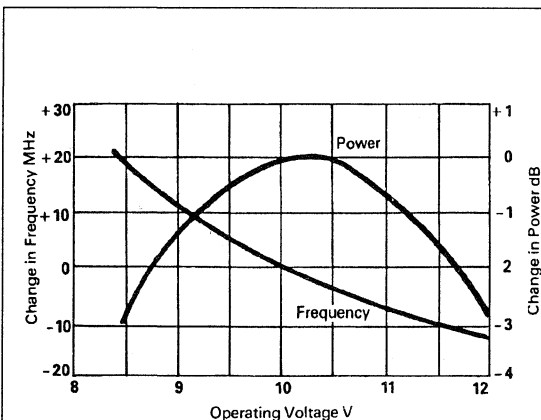
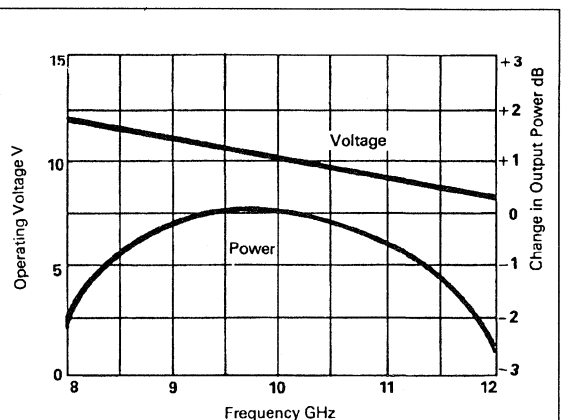

Fig.2 Variation of Output Power and Frequency with Operating Voltage.
Fig.3 Effect of Voltage Tracking on the Variation of Output Power with Frequency on a Wideband Tunable Waveguide Oscillator.
6. The variation of output and frequency with operating voltage is shown in Fig. 2 for typical X band diode. The variation of output power with frequency can be reduced by use of voltage tracking as shown in Fig. 3.